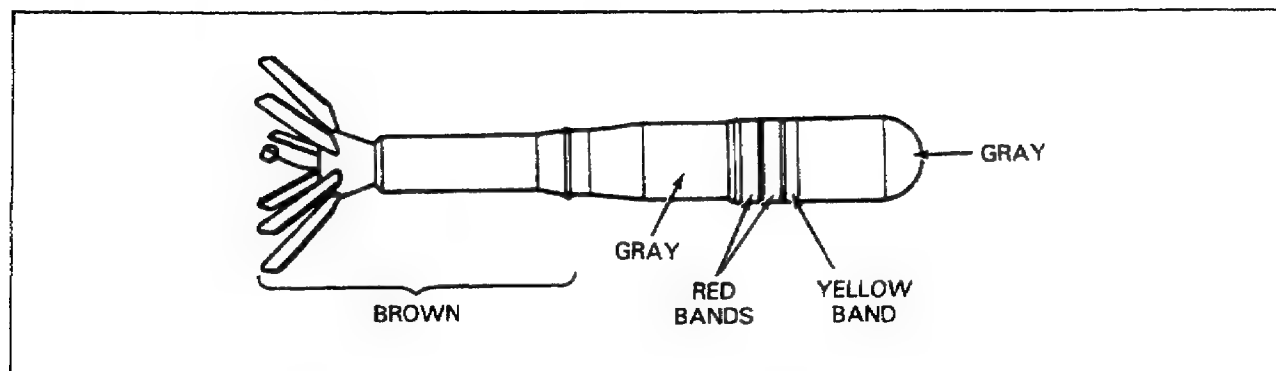

Figure 43. 66mm Riot-Control Rocket, M96.
**66mm Riot-Control Rocket, M96.** The 66mm riot-control rocket, M96 is identical to the M74 incendiary rocket except for its filler and color code. See Figure 43. The riot-control rocket, M96 is filled with a CS mixture (tear gas) and has an HE burster. It is packed the same way as the 66mm incendiary rocket, M74.